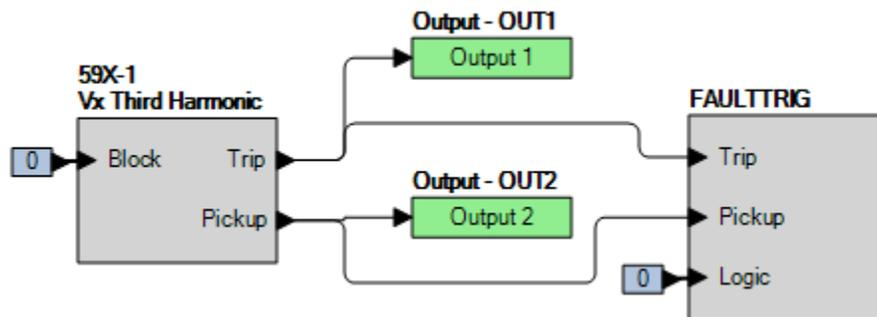

Figure 46-3. BESTlogicPlus Settings (Vx Third Harmonic Mode)
Step 2: Use *BESTCOMSPus* to configure the *BESTlogicPlus* programmable logic shown in Figure 46-3. Blocking is disabled.
Step 4: Prepare to monitor the 59X-1 function operation. Operation can be verified by monitoring OUT2 (see Figure 46-3).